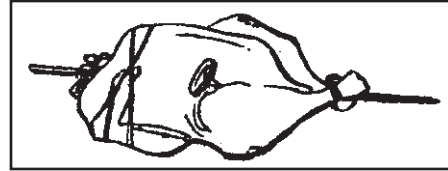

Fig. 16
**For poultry:** Insert the tip of the thermometer in the thickest part of the thigh close to the body. (Fig. 16)